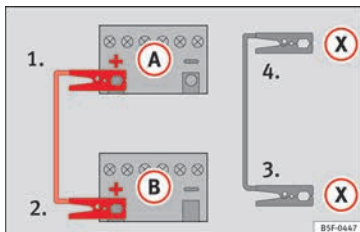

Fig. 68 Diagram of connections for vehicles with Start Stop system
– For vehicles with Start-Stop system: connect one end of the black jump lead (X) to a suitable ground terminal, to a solid piece of metal in the engine block, or to the engine block itself »» Fig. 68.
5. Connect the other end of the black jump lead (X) to a solid metal component bolted to the engine block or to the engine block itself of the vehicle with the flat battery. Do not connect it to a point near the battery (A).